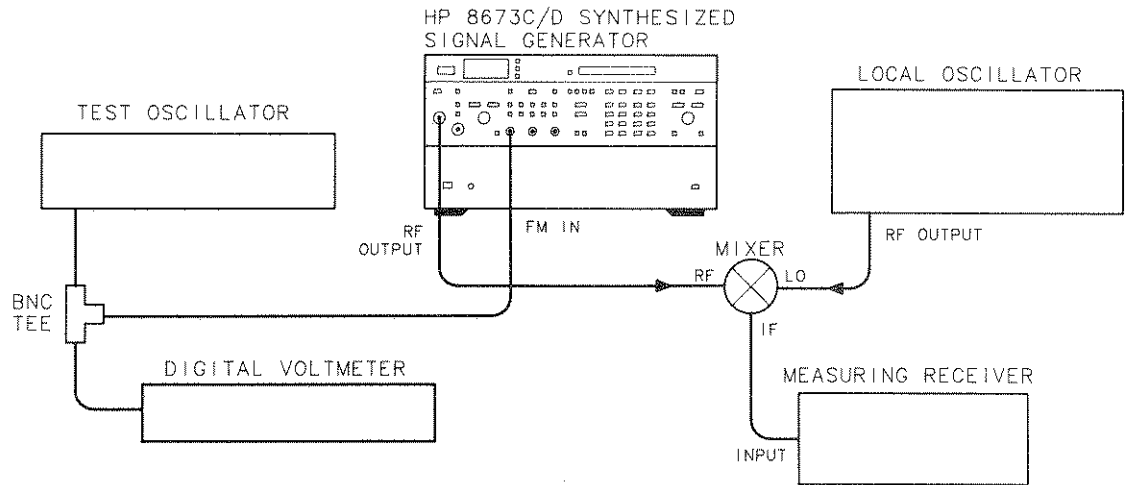

Figure 4-37. External FM Accuracy and Meter Accuracy Test Setup
1. Connect the equipment as shown in Figure 4-37.